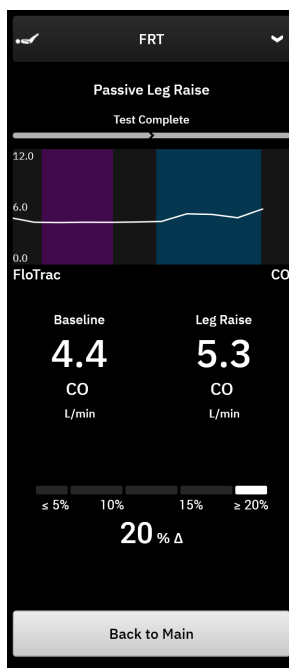

Figure 13-25: Fluid Responsiveness Test – results screen
- At the conclusion of the test, the change in the selected **Parameter** value as a response to the fluid challenge will be displayed. See Figure 13-25 on page 350. Touch the **Back to Main** button to perform another test, or the
11. At the conclusion of the test, change in the selected **Parameter** value as a response to the fluid challenge will be displayed. See Figure 13-25 on page 350. Touch the return icon to perform another test, or the home icon to return to the main monitoring screen.